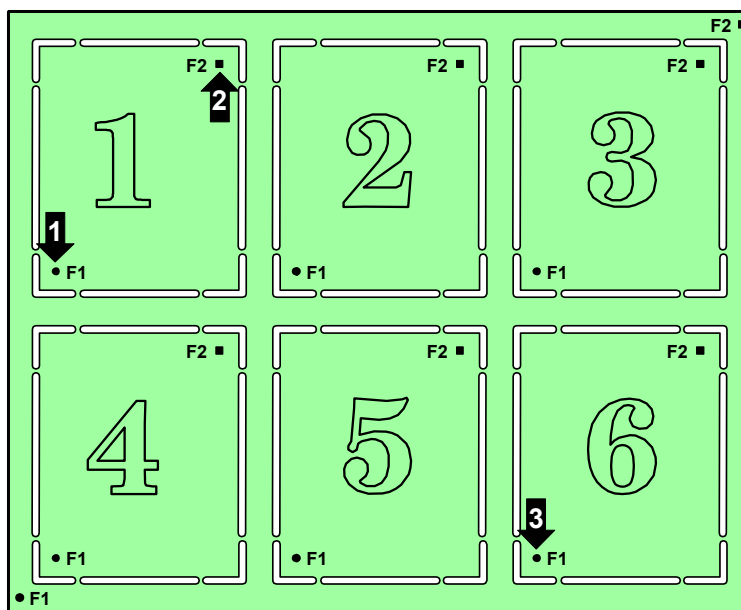

Figure 7-10. PCB matrix in a panel
3. Enter the number of rows, that is the number of PCB rows in the panel, counted in the X axis of the machine. Figure 7-10 shows an example of a two row panel.
4. Enter the number of columns, that is the number of PCB columns in the panel, counted in the Y axis of the machine. The example in Figure 7-10 has three columns.
This fiducial mark is marked '1' in Figure 7-10.
Fiducial mark 2 is marked '2' in Figure 7-10.
Fiducial mark 1 on the last board is marked '3' in Figure 7-10.
You can define PCB 1 in any corner of the panel, that is as board number 1, 3, 4, or 6 in Figure 7-10 but you must always define the last board in the opposite corner of the first board.